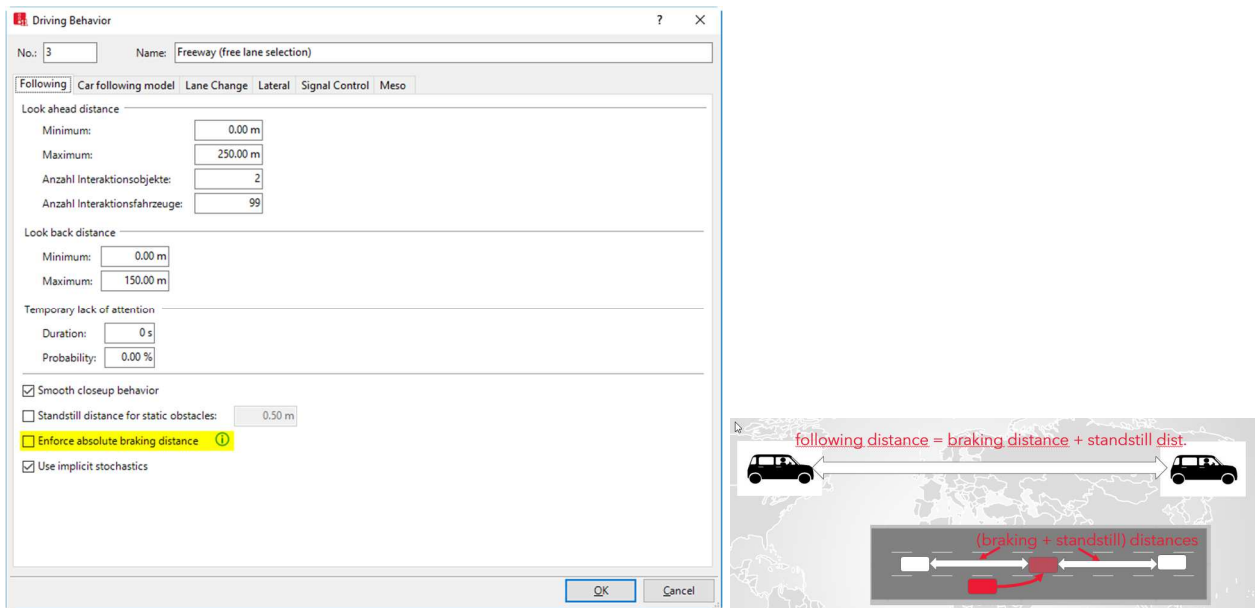

Figure 1 Enforce absolute braking distance dialog (left) and an illustration (right)
The PTV Vissim add-on module "Driving Simulator Interface" (see Figure 1) allows to connect Vissim to a driving (cycling, walking) simulator (DS). That DS can either be a simulator hardware used by a human or a piece of software representing the algorithms of a CAV (or multiple CAVs).